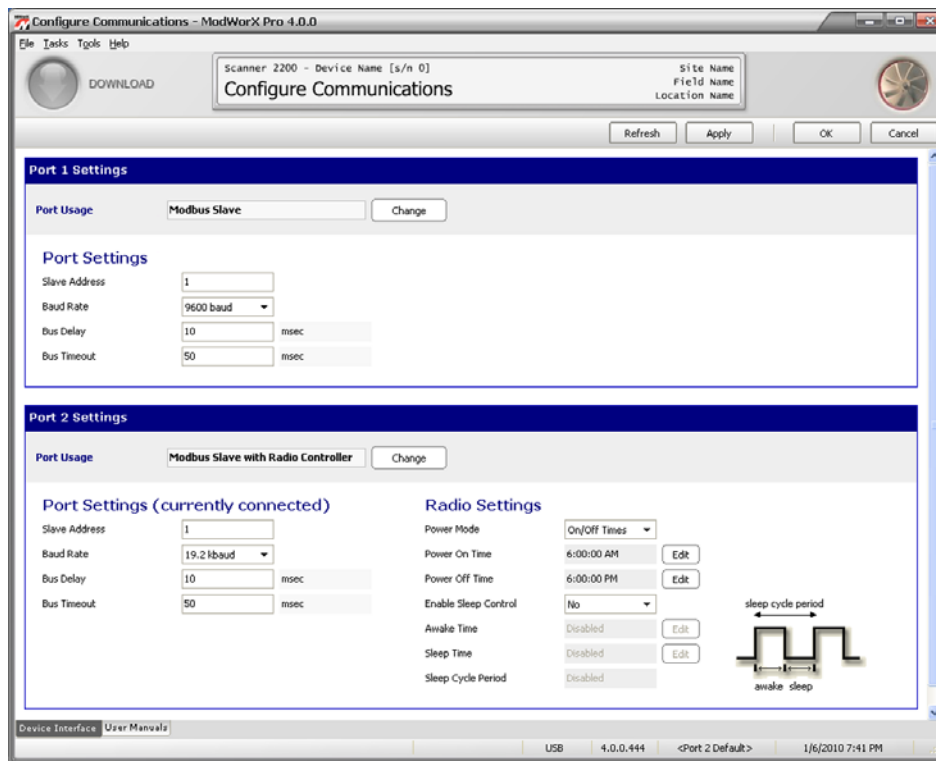

Figure 3.11
1. From the Configure Communications screen, change the Port Usage setting in the Port 2 Settings section to “Modbus Slave with Radio Controller” (Figure 3.11, page 38).